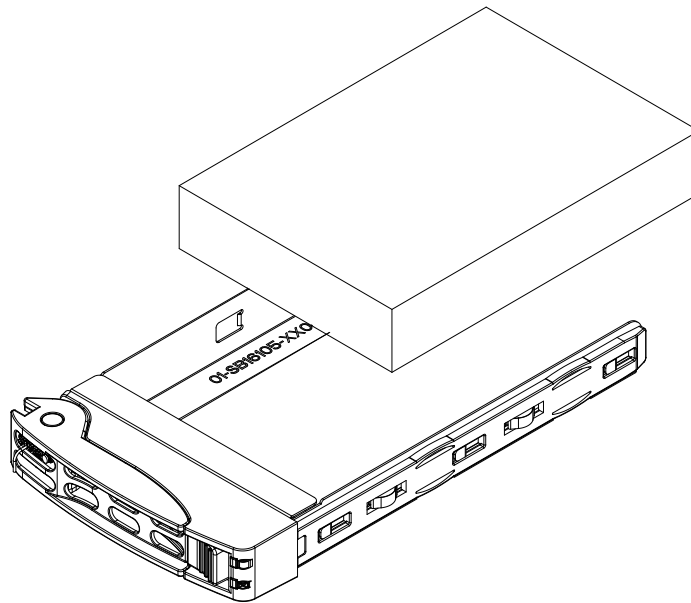

**Figure 3-6. Mounting a Drive in a Carrier**
3. Remove the dummy drive from the carrier (Figure 3-6).